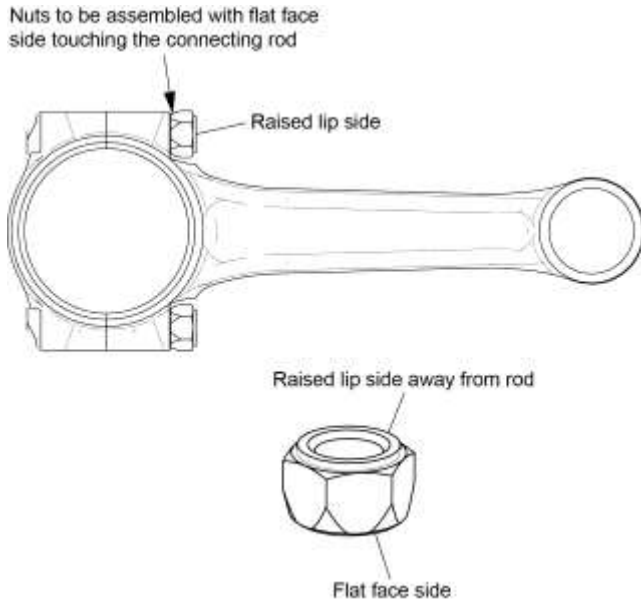
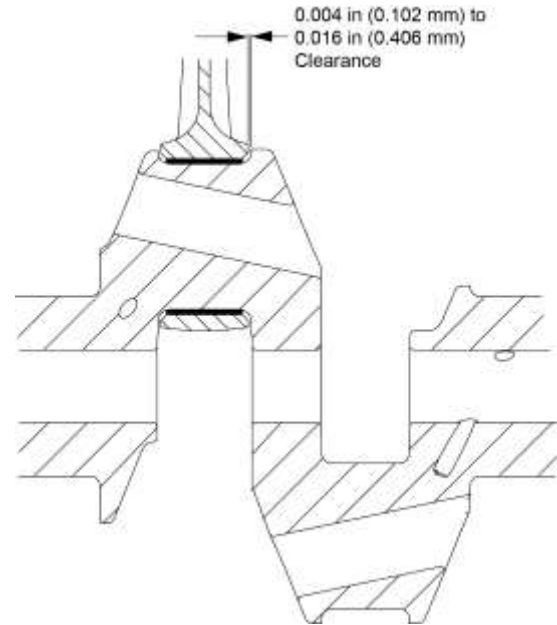

Figure 62
Figure 63
- (9) Install a new nut on each new connecting rod bolt where the flat face of the nut touches the connecting rod as shown in Figure 62.
- (10) Torque the connecting rod bolts per the torque values in the latest revision of Service Instruction No. SI-1458. (Stretch bolts require an initial torque and are then torqued to the correct stretched length.)
- (11) Measure the side clearance between the connecting rod and crankshaft with a feeler gage where shown in Figure 63. The clearance is to be 0.004 to 0.016 in (0.102 to 0.406 mm).